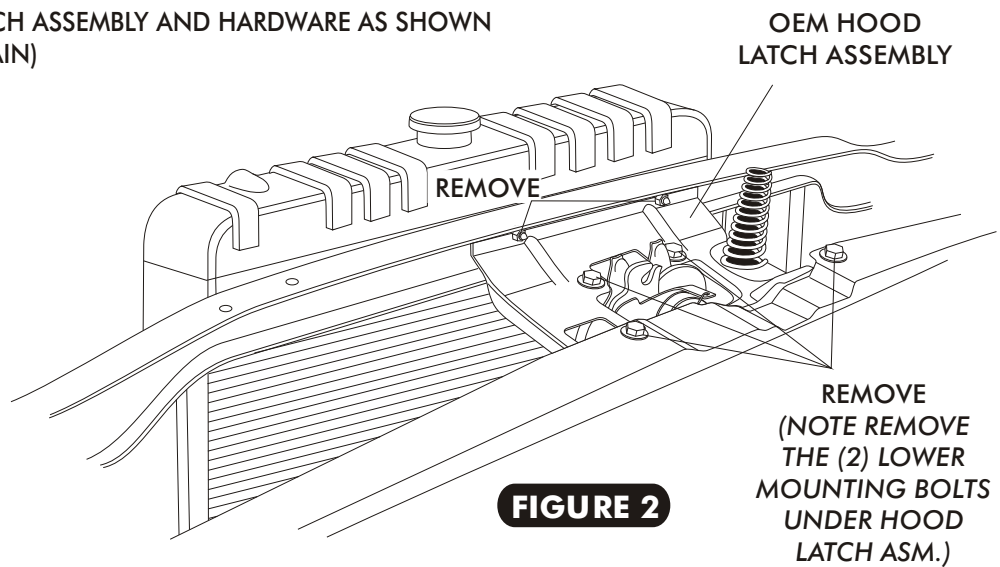

FIGURE 2
- REMOVE OEM HOOD LATCH ASSEMBLY AND HARDWARE AS SHOWN BELOW IN FIGURE 2. (RETAIN)